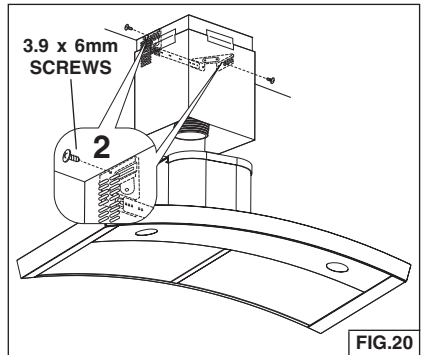

FIG.20
7. Lift the flue into position above the hood. Secure upper flue to the flue mounting bracket with (2) 3.9 x 6 mm screws. Fig. 20.